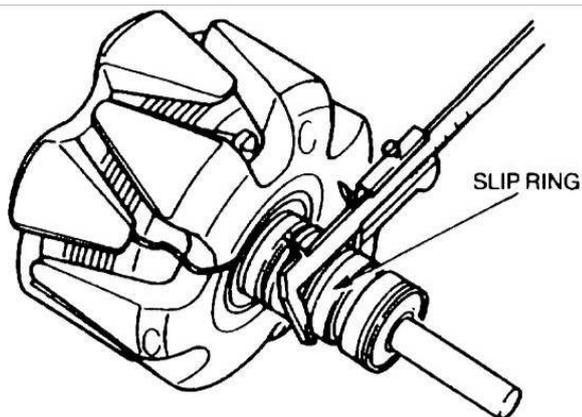

Figure 316 Measuring the Slip Rings
- c. Using a vernier caliper, measure the outside diameter of the slip rings (Figure 316), the figure must be between 33.6 to 34.6 mm (1.31 to 1.36 in). If the dimension is not within specification, replace the rotor assembly.